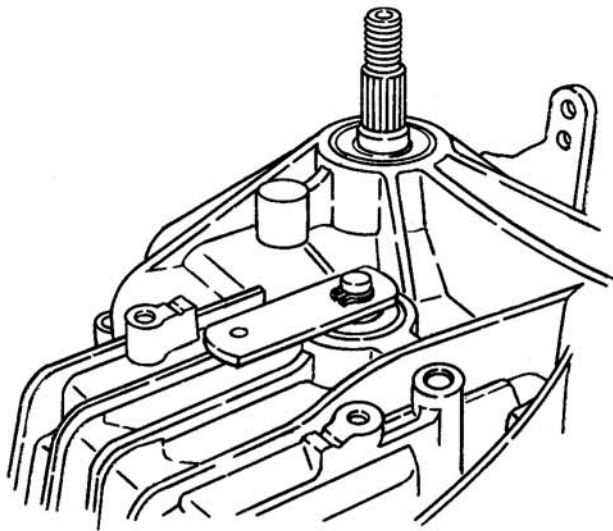

Figure 6-42. Bypass Arm
4. Check to make sure bypass actuator and linkage are operational. The bypass should be fully disengaged during operation of the vehicle. See Figure 6-42.